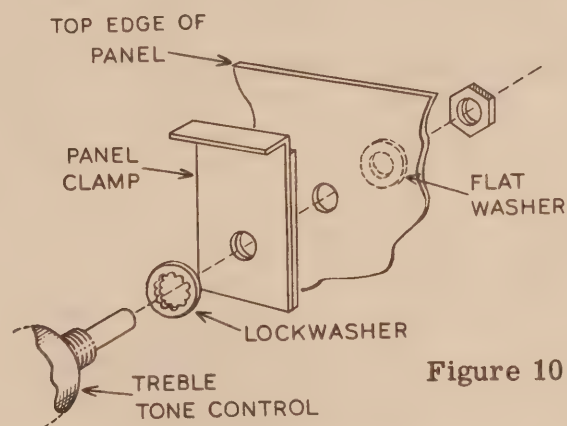

Figure 10
- (✓) 31. Mount the TREBLE control and the panel clamp on the back of the control panel. See Figure 10 for assembly details.